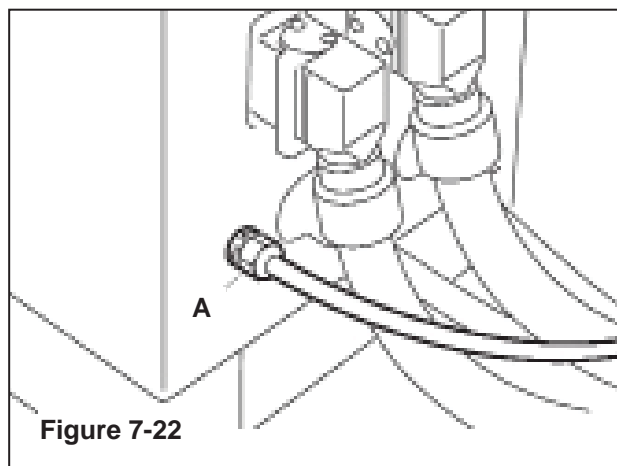

Figure 7-22
2. Use **Figure 7-22** and tape threading label. Position the tape supply roll so the adhesive side of tape is facing the front of the taping head as it is pulled from the supply roll.
4. Continue pulling the threading needle down and guide it between the two (2) rollers on the apply arm (**Position 3**).